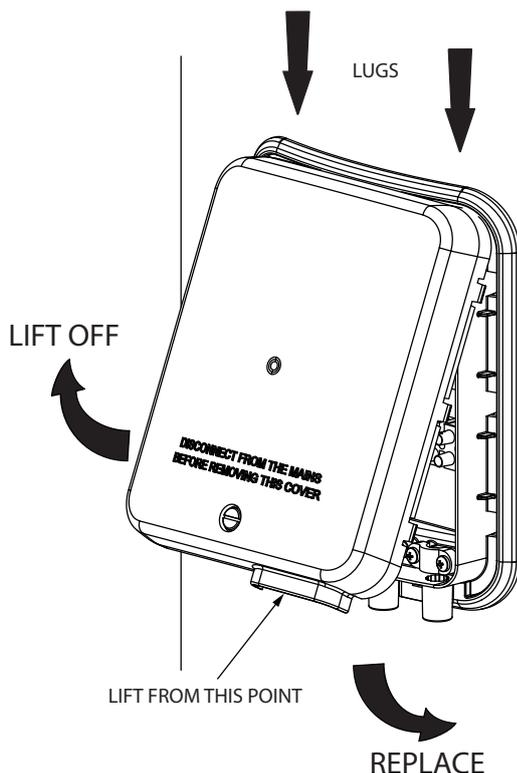

Figure 12: Immersion heater cover removal and replacement
- ▶ The immersion heaters are accessed by removing the Control Cover (see Fig 12).
- ▶ Lift from the bottom of the cover at the point indicated on Fig 12 until cover comes away freely.
- ▶ Replace the Control Cover(s) before operating. To do this tilt the cover and align the top two lugs with the holes in the housing as indicated on Fig 12. Hinge the cover downwards and firmly press the cover until it "snaps" back into place. Secure by tightening the screw on the cover using a flat bladed screwdriver. DO NOT OVER TIGHTEN.
- ▶ The indirect controls and back-up immersion heater are accessed by removing the Control Cover (see Fig 12, page 12).
- ▶ Replace the Control Cover(s) before operating. To do this tilt the cover and align the top two lugs with the holes in the housing as indicated on Fig 12. Hinge the cover downwards and firmly press the cover until it "snaps" back into place. Secure by tightening the screw on the cover using a flat bladed screwdriver. **DO NOT OVER TIGHTEN**